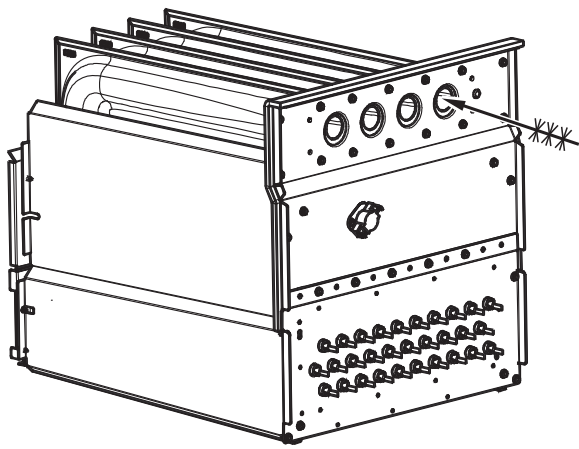

Fig. 66 – Cleaning Heat Exchanger Cell
7. Clean heat exchanger openings with a vacuum and a soft brush. See Fig. 66.